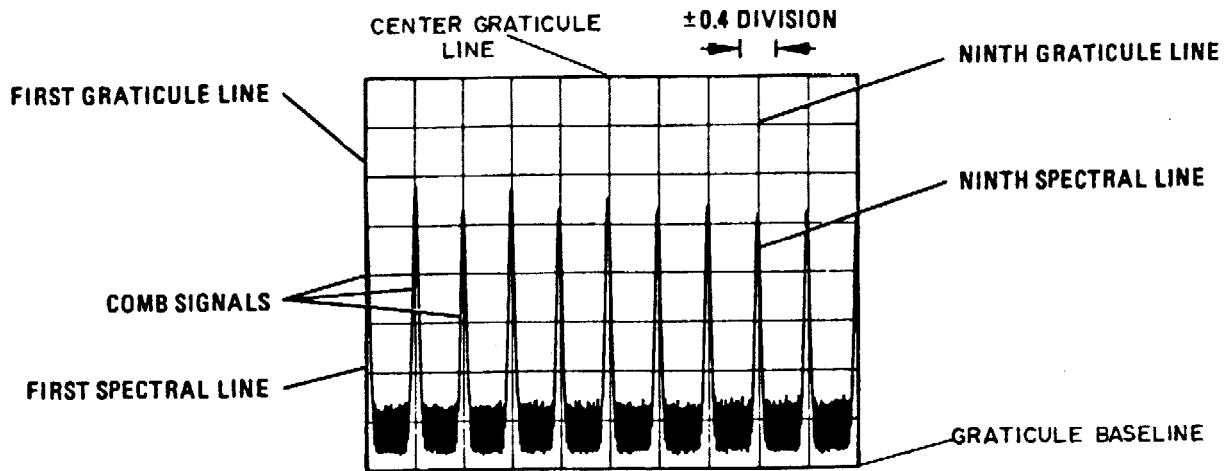

Figure 8. Frequency span accuracy measurement for 9th spectral line.
(4) Depress **FREQUENCY CAL** pushbutton and adjust **FREQUENCY ZERO** control for zero indication on **FREQUENCY MHz** readout.
(5) Repeat (3) and (4) above until **LO** feedthrough signal remains positioned on center vertical graticule line of crt.
(6) Adjust synthesizer/level generator frequency to 20 MHz and amplitude output level to +10 dBm.
(7) Adjust **TUNING** control for 500 MHz indication on **FREQUENCY MHz** readout.
(8) Press **FREQUENCY CAL** pushbutton and center 500 MHz comb signal on crt with **TUNING** control.
(9) Adjust **RESOLUTION BW** and **INPUT ATTEN (OPTIMUM INPUT)** switches to view 20 MHz comb signal on crt.
(10) Adjust **TUNING** control to position a 20 MHz comb signal on 1st vertical graticule line (fig. 8).
(11) Press **FREQUENCY CAL** pushbutton.
(12) Repeat (10) above.
(13) The 9th spectral signal will be within ± 0.4 division of 9th vertical graticule line (fig. 8); if not, perform **b** below.
(16) Adjust **TUNING** control for **1000 MHz** indication on **FREQUENCY MHz** display and position a 500 MHz comb signal on 1st vertical graticule line (fig. 8).
(17) Press **FREQUENCY CAL** pushbutton and repeat (16) above.
(18) If the second comb signal (1000 MHz) is not within ± 0.2 division of center vertical graticule line (fig. 8), perform **b** below.
(19) Center **LO** feedthrough signal on crt with **TUNING** control.
(20) Press **FREQUENCY CAL** pushbutton and repeat (19) above.
(21) Adjust **FREQUENCY ZERO** control for 00.00 indication on **FREQUENCY MHz** readout.
(22) Disconnect comb generator output from **TI INPUT 50Ω**.
(23) Connect synthesizer/level generator 50Ω output to **TI INPUT 50Ω**.
(24) Adjust synthesizer/level generator frequency to 2 MHz and output amplitude level to -10 dBm.
(25) Set **FREQ SPAN/DIV** switch to **100 kHz**.
(26) Adjust **TUNING** control for 2 MHz indication on **FREQUENCY MHz** readout.